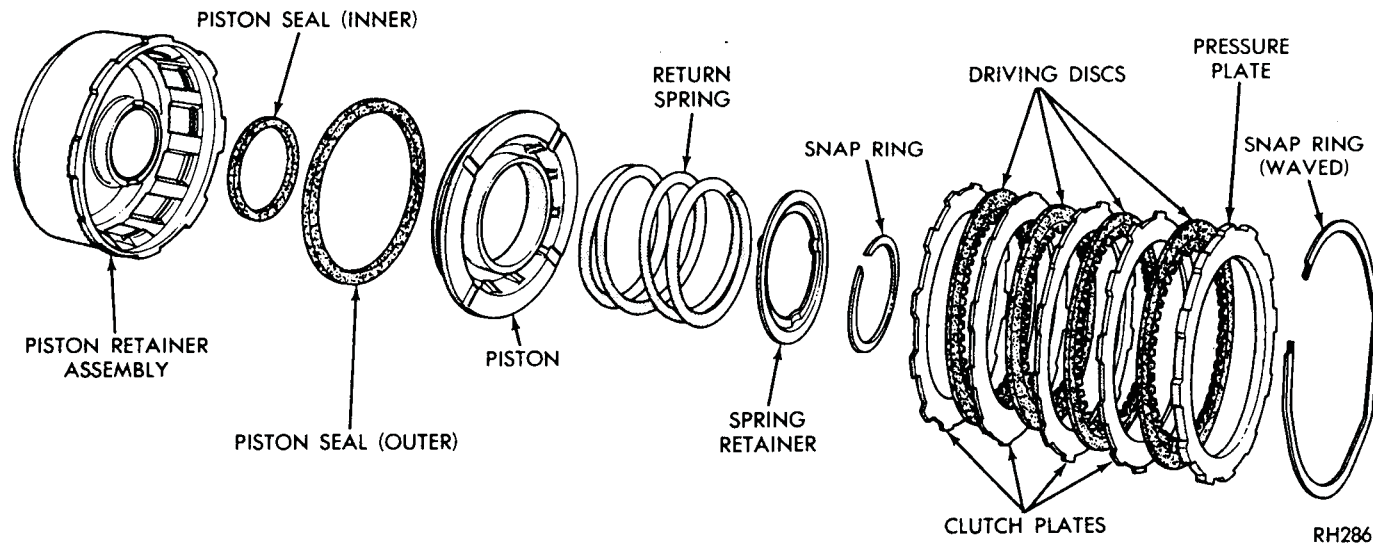
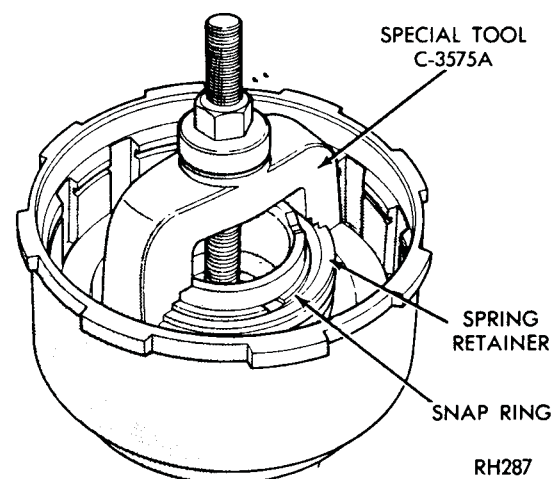
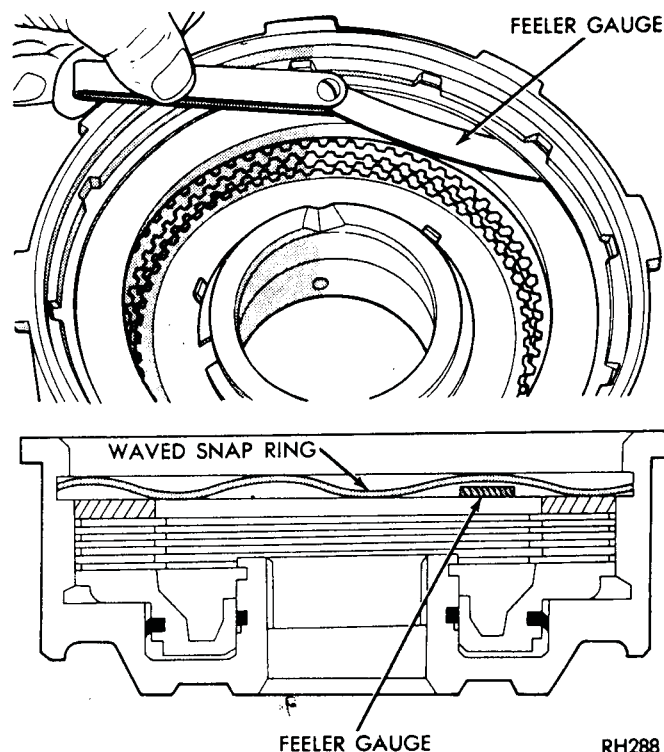
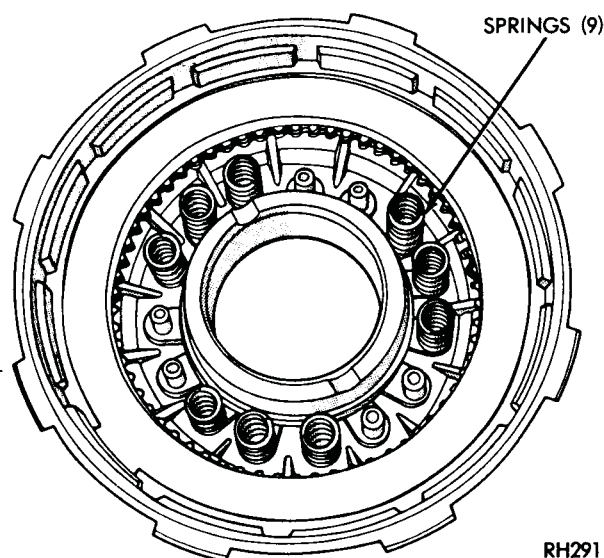

Fig. 18—Front Clutch (A-904T and A-999)
Fig. 19—Front Clutch Spring Retaining Snap Ring (A-904T and A-999)
Fig. 21—Measure Front Clutch Plate Clearance
Fig. 25—Front Clutch Spring Location (9 Springs)
Figure 18 shows a disassembled view of the front clutch assembly.
(1) Remove large waved snap ring that secures pressure plate in the clutch piston retainer. Lift pressure plate and clutch plates out of the retainer.
(2) Install compressor Tool C-3575A, over piston spring retainer (Fig. 19). Compress spring and remove snap ring, then slowly release tool until spring retainer is free of the hub. Remove tool, retainer, and spring.
(3) Invert clutch retainer assembly and bump it on a wooden block to remove the piston. Remove seals from the piston and clutch retainer hub.
(1) Lubricate and install inner seal on hub of clutch retainer. Make sure lip of seal faces down and seal is properly seated in the groove (Fig. 18).
(2) Install outer seal on the clutch piston, with lip of seal toward bottom of clutch retainer. Apply a coating of wax type lubricant or Door Ease to outer edge of seals and press seal to bottom of its groove around piston diameter for easier installation of piston assembly. Place piston assembly in retainer and carefully seat piston in bottom of retainer.
(3) Place spring on piston hub and position spring retainer and snap ring on the spring. Compress spring with Tool C-3575A (Fig. 19), and seat snap ring in hub groove. Remove compressor tool.
(4) Lubricate all clutch plates, install one steel plate followed by a lined plate (disc) until the number given in specifications is installed. Install pressure plate and snap ring. Make sure snap ring is properly seated.
(5) Insert a feeler gauge between pressure plate and waved snap ring to measure maximum clearance where snap ring is waved away from pressure plate (Fig. 21). See "Specifications" for allowed clearance.
(1) Lubricate and install inner seal on hub of clutch retainer. Make sure lip of seal faces down and seal is properly seated in the groove.
(3) Refer to "Specifications" and install proper number of springs on piston exactly as shown in Figure 25 or 26. Position spring retainer and snap ring over the springs. Compress springs with Tool C-3863-A (Fig. 23), and seat snap ring in hub groove. Remove compressor tool.